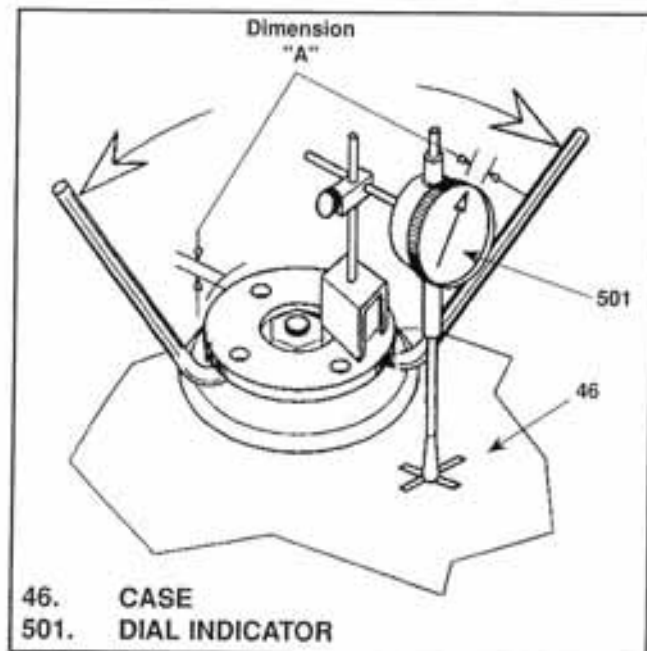

Figure 5-13. Magnetic Base Dial Indicator
c. Install flange (18), and hold with coupling wrench T-5005. Tighten flange nut (17) to 50 ft-lbs (68 Nm) torque. Rotate the case as assembled so the flange is on the top.
d. Rotate the flange 3 or 4 complete revolutions to insure the output shaft assembly (23) is resting squarely in bearing cup (45).
e. Mount a dial indicator as shown in figure 5-13.